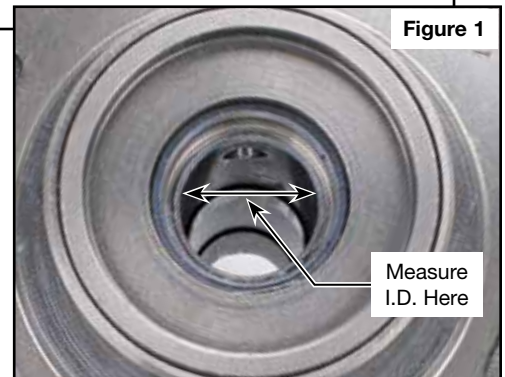

Figure 1
- Measure inside diameter of bore (Figures 1 & 2). Bore will measure about .916–.917" where indicated.